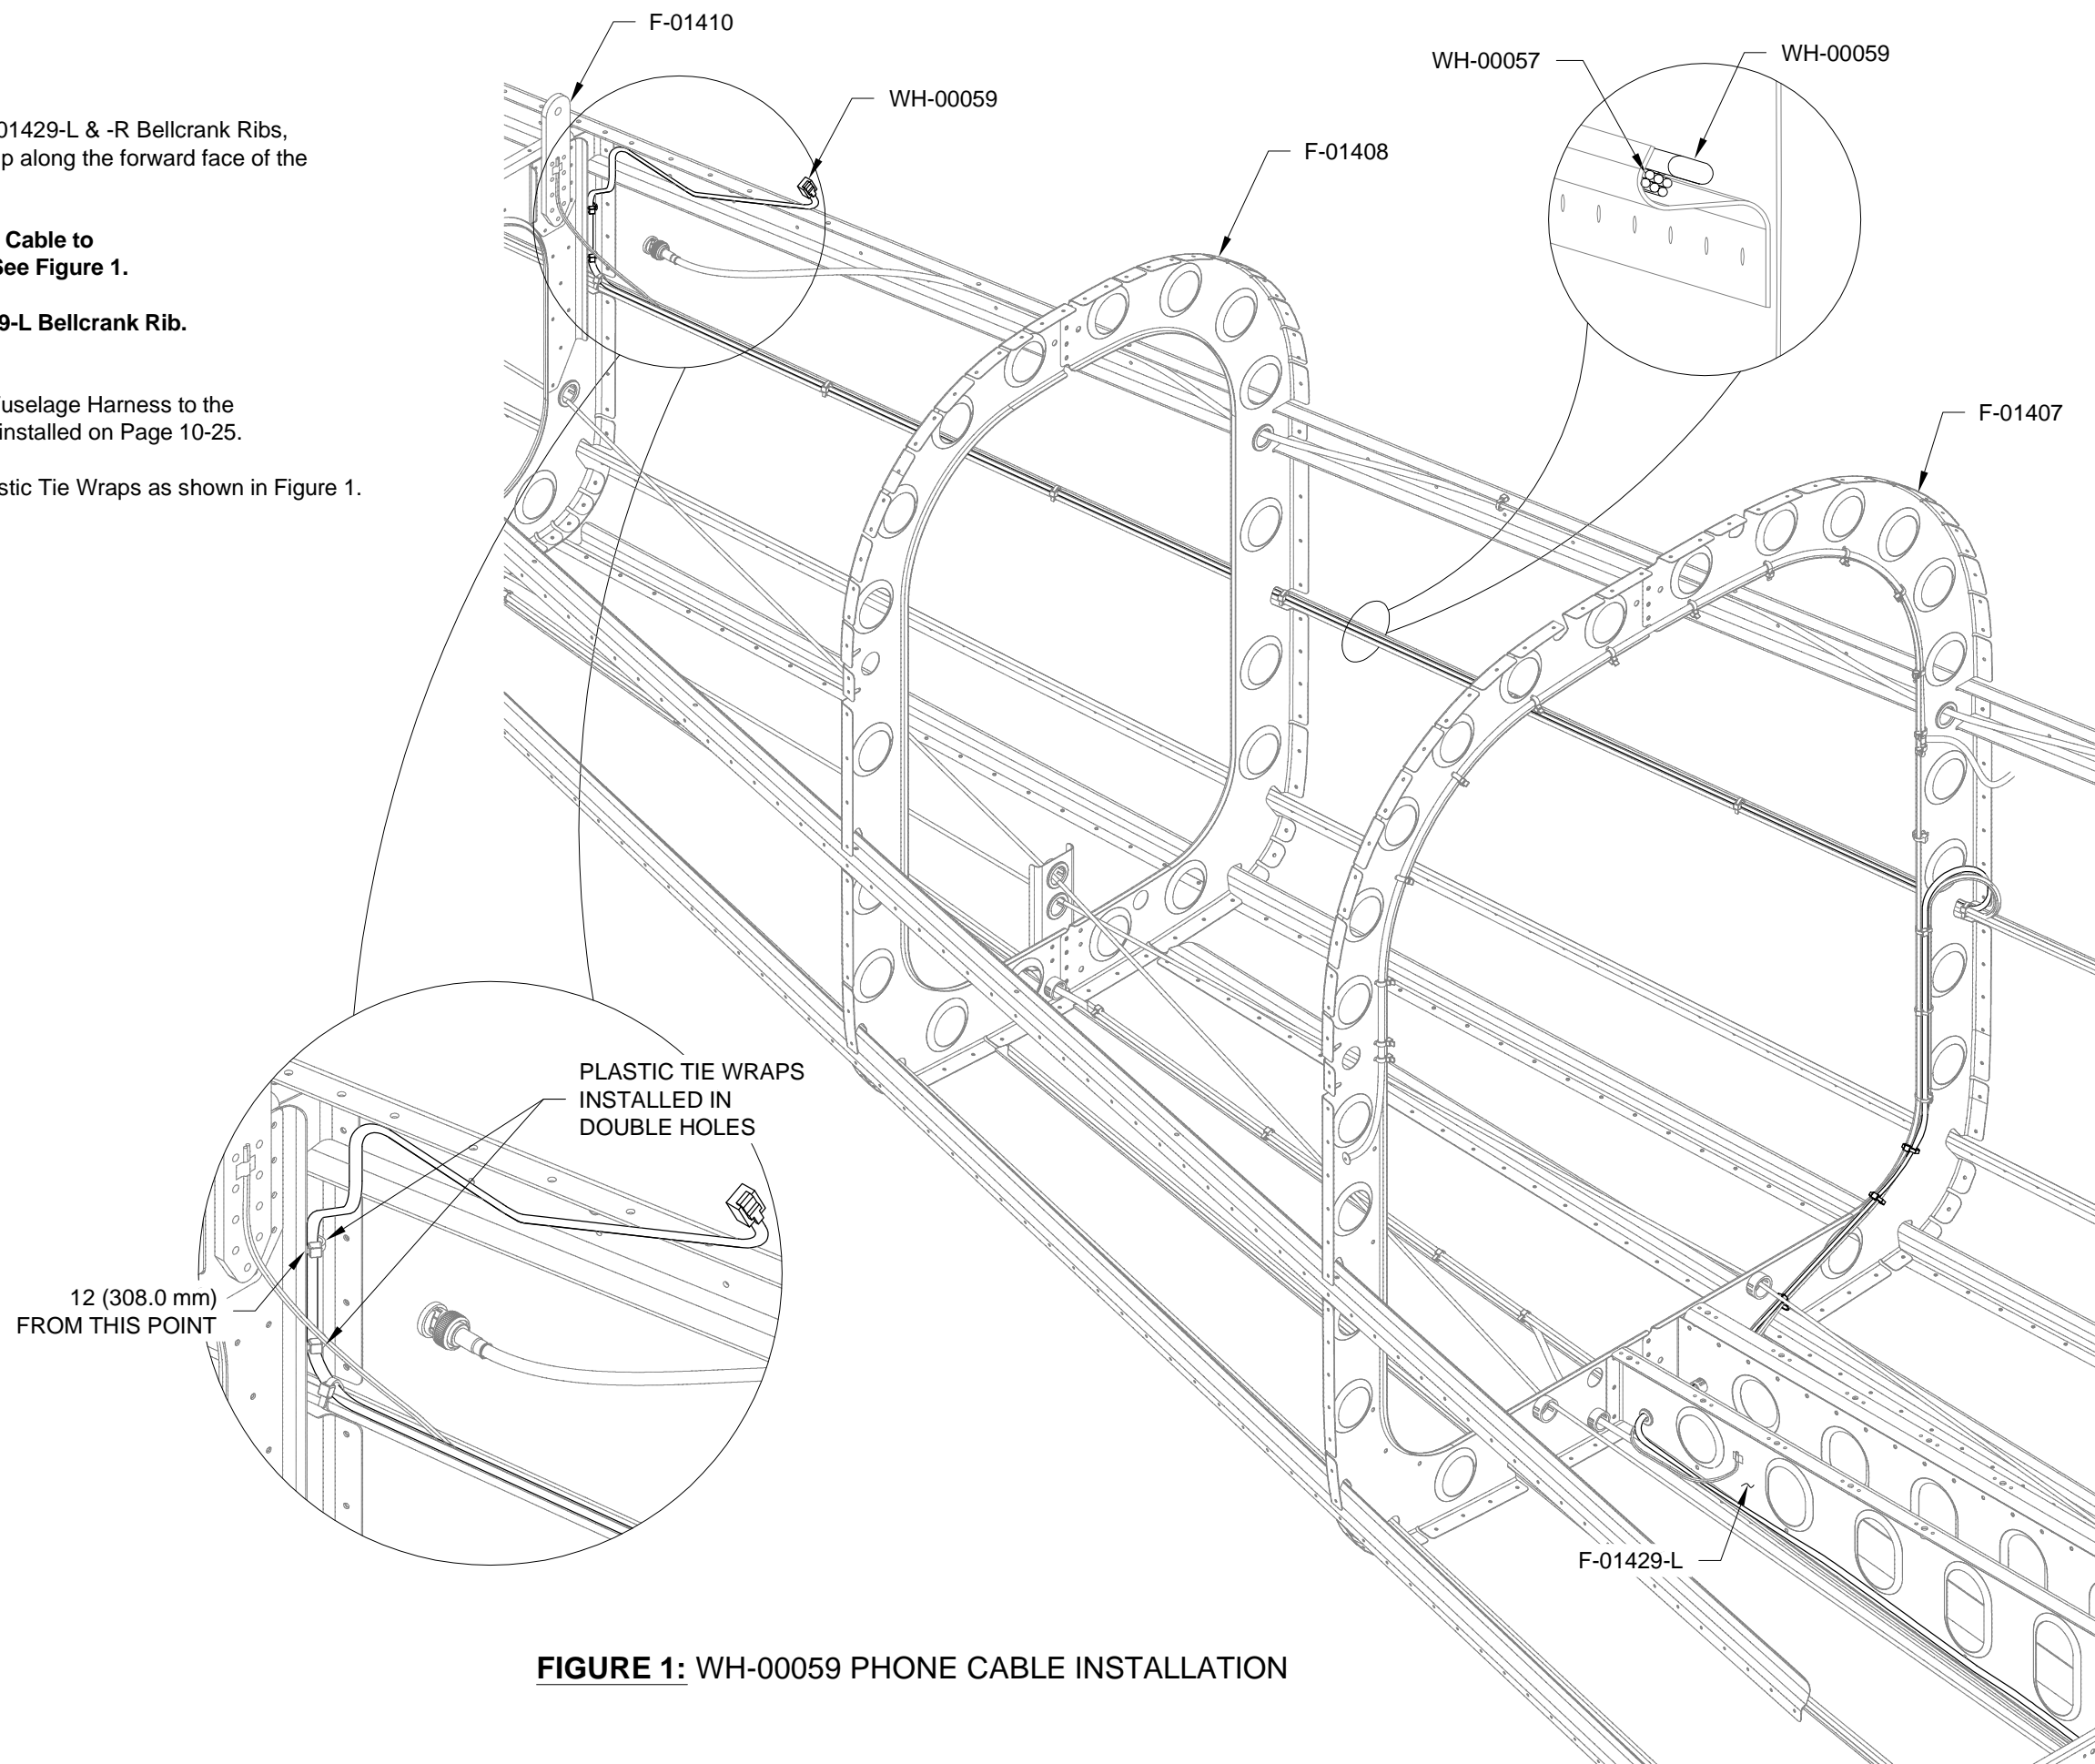

FIGURE 1: WH-00059 PHONE CABLE INSTALLATION
NOTE: Allow 12 1/8 [308.0 mm] of the WH-00059 Phone Cable to extend from the aft most tie wrap for final installation. See Figure 1.
Secure the phone cable to the F-01410 Bulkhead using Plastic Tie Wraps as shown in Figure 1.
Step 1: Round the faceted edges on F-01409 Frame as shown on Page 10-06, Figure 1.
Step 2: Dimple the #40 holes on the flanges of the F-01409 Frame as shown in Figure 1.